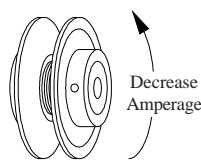

Fig. 10
- **Adjust pulley if necessary.** If amperage draw is less than motor rating, turn off electrical power and remove pad frame. Unplug motor inside cooler, this will protect you from someone turning on unit while you are working inside. This should be done for your safety. Adjust pulley to a larger diameter and readjust belt tension, plug motor in, install pad frame, and retest amperage draw. Repeat this process until correct amperage draw is attained. Increasing motor pulley diameter increases amperage draw. Decreasing motor pulley diameter decreases amperage draw (see Fig. 10).